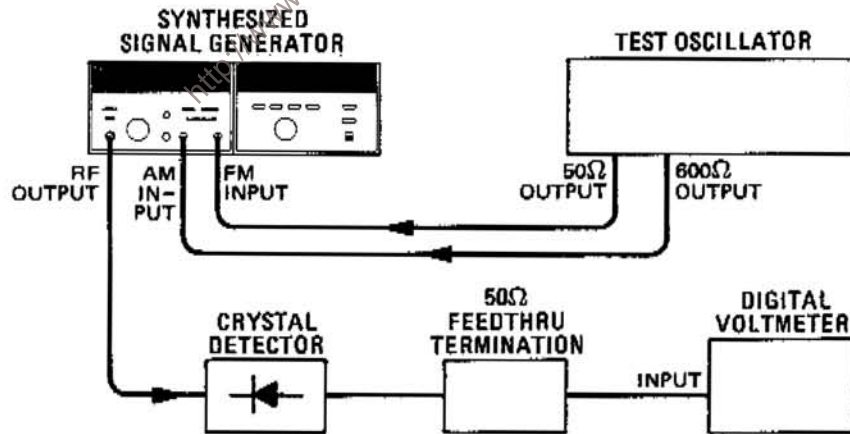

Figure 4-16. Incidental AM Test Setup
- Connect the equipment as shown in Figure 4-16.